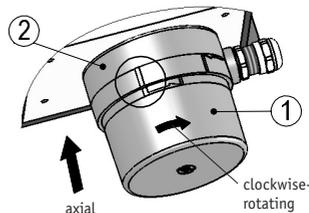

Fig. 7: Closing
#### For closing (fig.7):
- Place the hood (1) onto the gear's housing (2) so that the two broad markings are on one line.
- Fix the gear's housing (2) and turn the hood (1) clockwise until the bayonet fastening engages and the two thin markings are on one line (fig. 7).